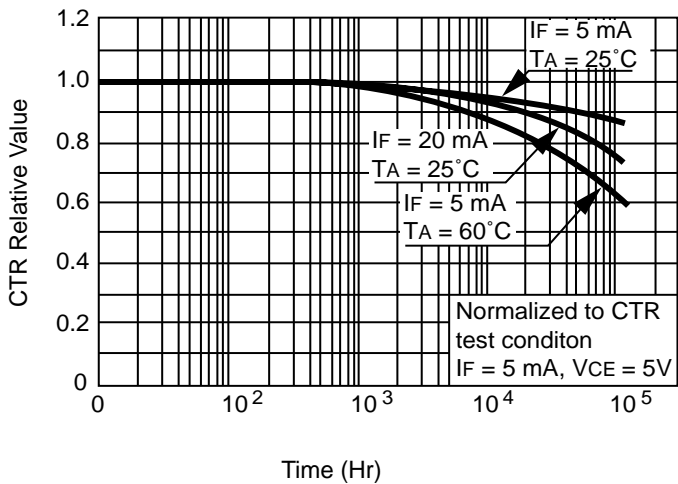

Figure 4-2. Change of CTR with Time (PS2601)
- (From Fig. 4-2) CTR change with time (10 years, Ta = 60 °C)